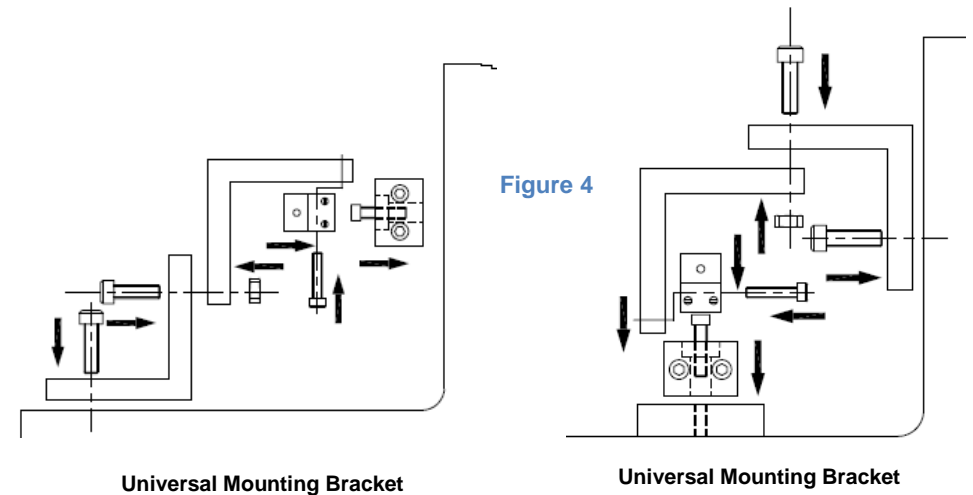

Figure 4
- The reader-head mounting bracket should be installed as per Figure 4 such that correct gap is maintained between the reader head and the scale.